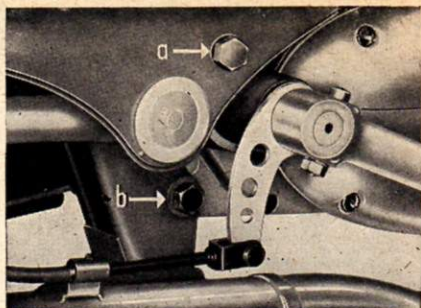

Fig. 17 Engine rear mounting
12. With a box spanner (SW 14) unscrew the rear engine securing screws (see arrow "a" and "b" on fig. 17), the M 8 x 105 and M 8 x 50 hexagonal screw and spring ring from the right hand side.